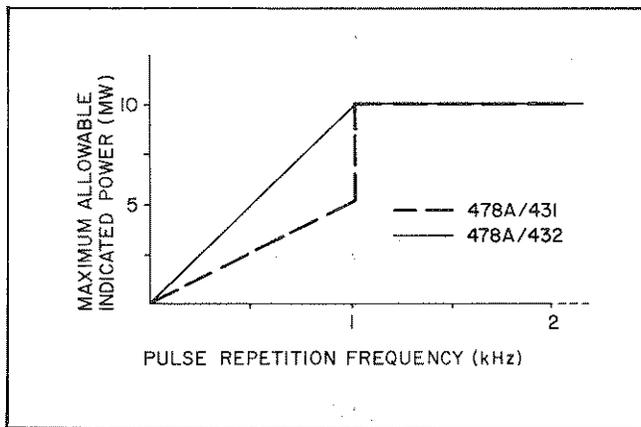

Figure 1. Maximum Power Meter Reading vs PRF for Pulses Shorter than 250 μ s
14. PULSE ENERGY AND PEAK POWER FOR 478A/432 COMBINATION. For pulses shorter than 250 μ s, energy per pulse must not exceed 10 W- μ s and peak power should never exceed 200 watts. (For example, a 40 mW, 250 μ s pulse contains 10 W- μ s of energy.) Pulses longer than 250 μ s are allowed to contain more energy but peak power must not exceed 200W. Figures 1 and 2 interpret these limits in graphical form. (For lack of space, the mount nameplate lists only a 5 W- μ s
15. PULSE ENERGY AND PEAK POWER FOR 478A/431 COMBINATION. The limitations of this combination are basically the same as the 478A/432 with the exception that at pulse repetition rates less than 1 kHz, energy per pulse must not exceed 5 W- μ s and peak power must not exceed 10 mW. These limits are also interpreted in Figures 1 and 2.